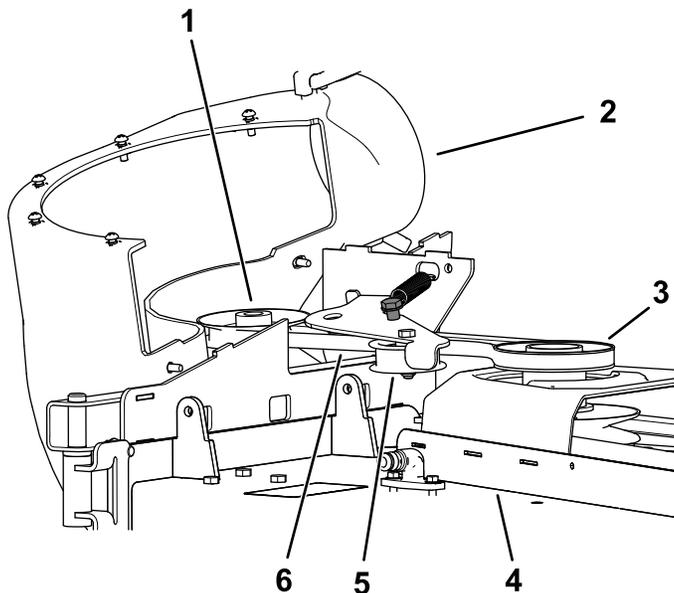

Figure 35
6. Install the new belt around the blower pulleys (Figure 35).
8. Install the new belt around the mower-deck pulley (Figure 35).
9. Pull back on the spring loaded idler pulley and install the belt onto the spring-loaded idler pulley (Figure 35).
2. Pull back on the spring-loaded idler pulley to relieve the belt tension (Figure 35).